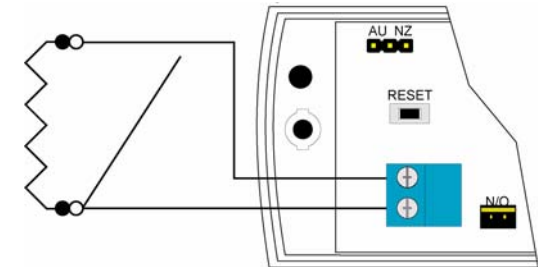

Figure 3 Wired for N/O operation
2. Use 22 AWG wire to wire the 2.2K ohm resistor in parallel with the N/O contact per Figure 3. The distance from the external contact to the EN1215EOL must not exceed 10 feet (3 meters).